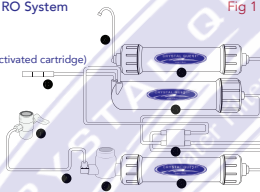

Fig 1
2. Thread male end of pre-filter (Fig 1, #9) into pre-treatment cartridge (Fig 1, #3) and tighten clockwise. You may need to use thread seal tape.